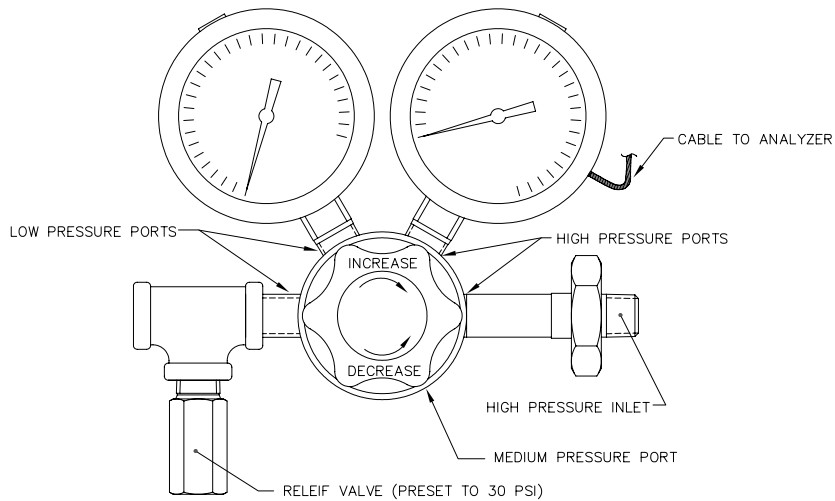

Figure 40 Calibration Gas Pressure Regulator with Relief Valve
- Calibration Blend Regulator Assembly with Low Pressure Switch (see Figure 40)